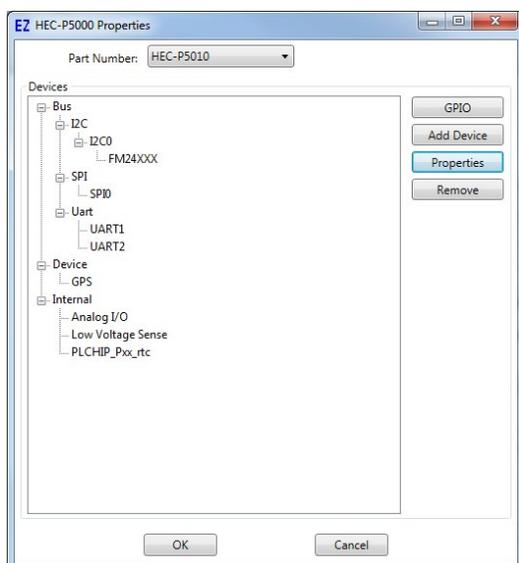

Figure 2-36 - HEC-P6XXX Properties
2. Click the **PROPERTIES** button to the right side of the window. The **HEC-P6000 Properties** Window will open. Make sure the proper model is selected in the drop-down menu. If the EEPROM feature was already installed, it would be displayed in the Devices Pane under the *Internal* heading (as PLCHIP_Pxx_eeprom). Refer to Figure 2-36.